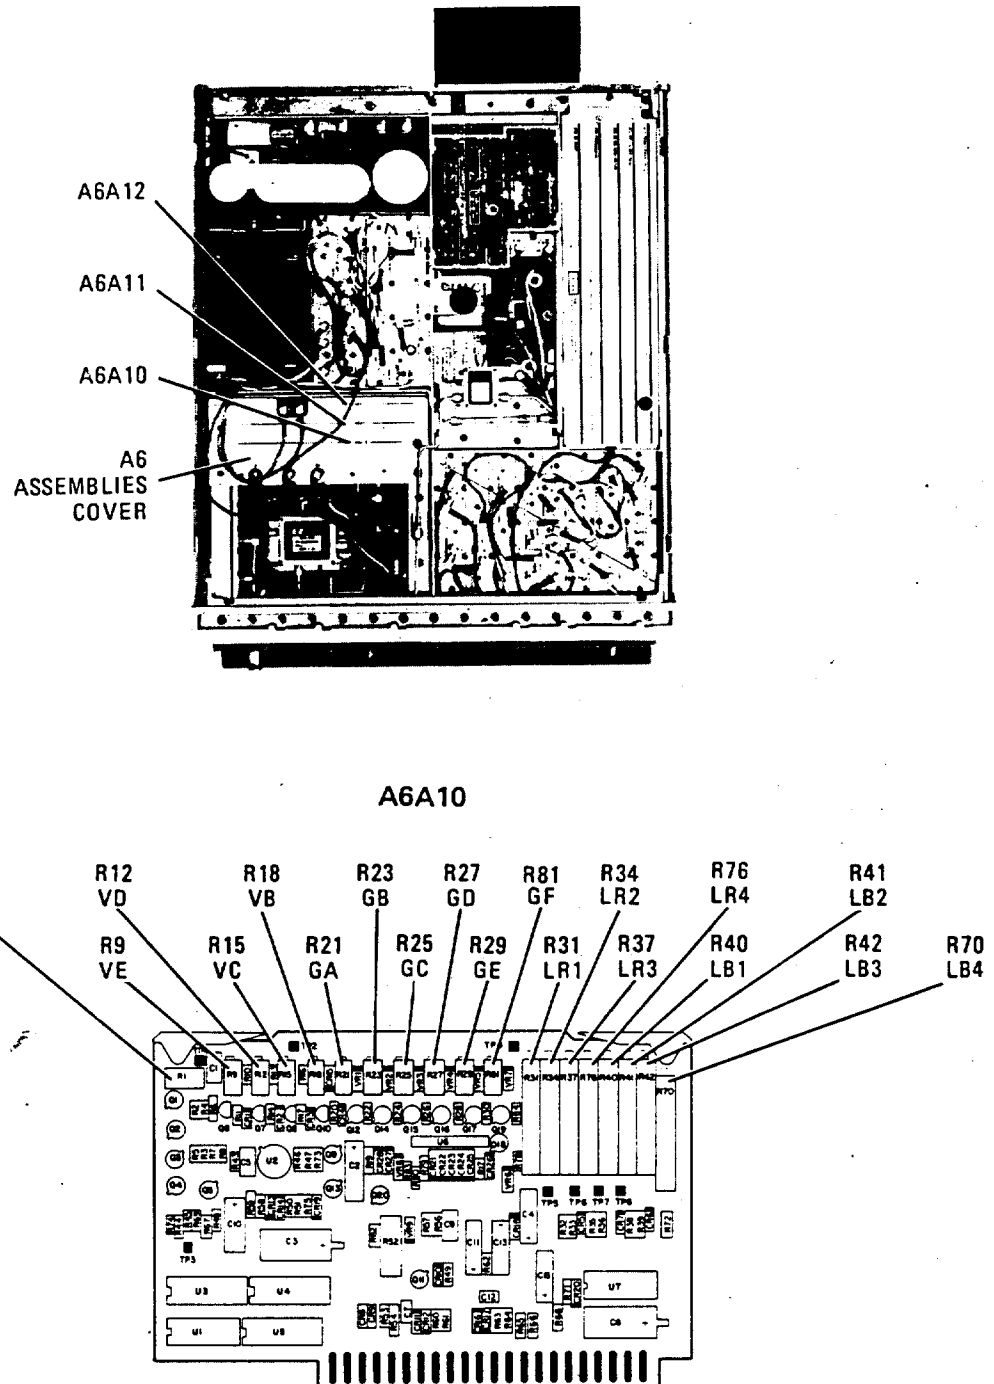

FIGURE 66. LOCATION OF FREQUENCY RESPONSE ADJUSTMENTS
A. Preset of Adjustments (Refer to Figures 66 and 67 for locations)